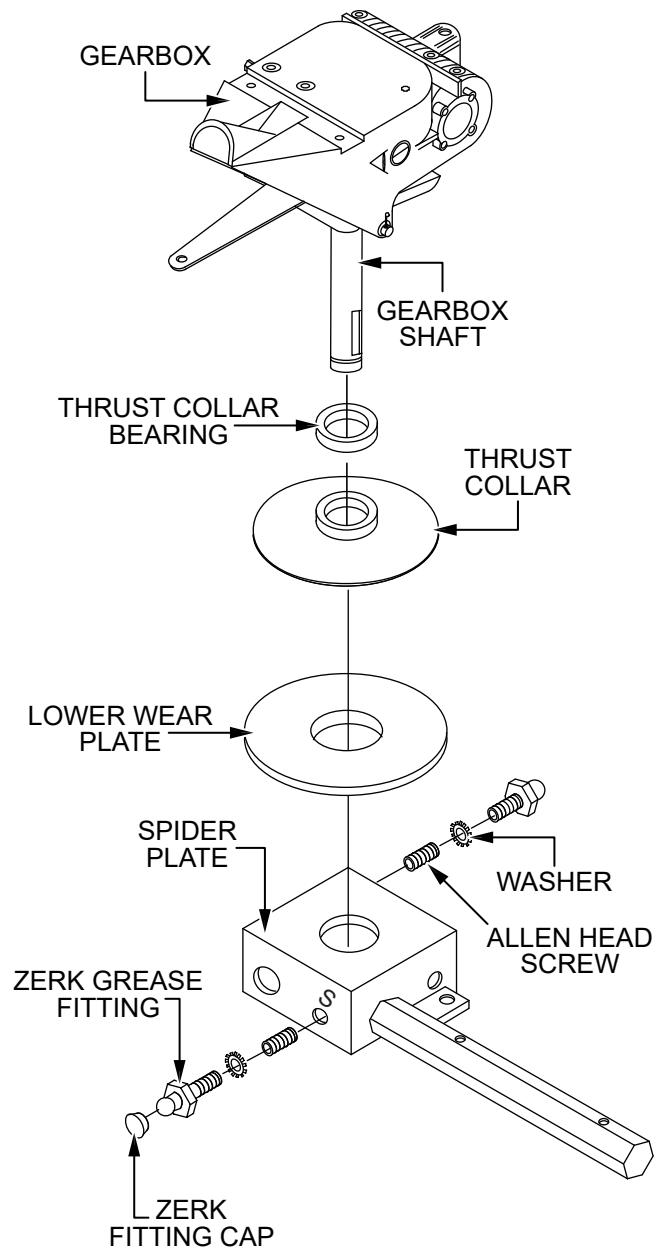

Figure 47. Spider Removal
1. Locate and remove the Zerk grease fitting and Allen head screw designated by the letter 'S' (Figure 47).
2. Remove the Zerk grease fitting and Allen head screw located on the opposite side of the spider plate (Figure 47).